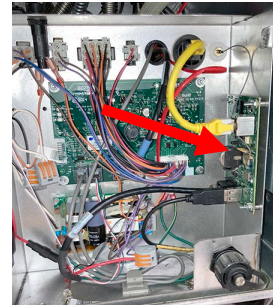
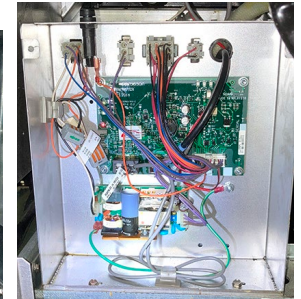

Figure 11
Figure 12
11. If the KCCM board is already installed, it is located on the right side of the FIB box (see Figure 11). If a replacement KCCM board is enclosed, replace the KCCM board. If a KCCM board is not installed (see Figure 12), proceed to the next step to install the KCCM board, otherwise skip to step 16.